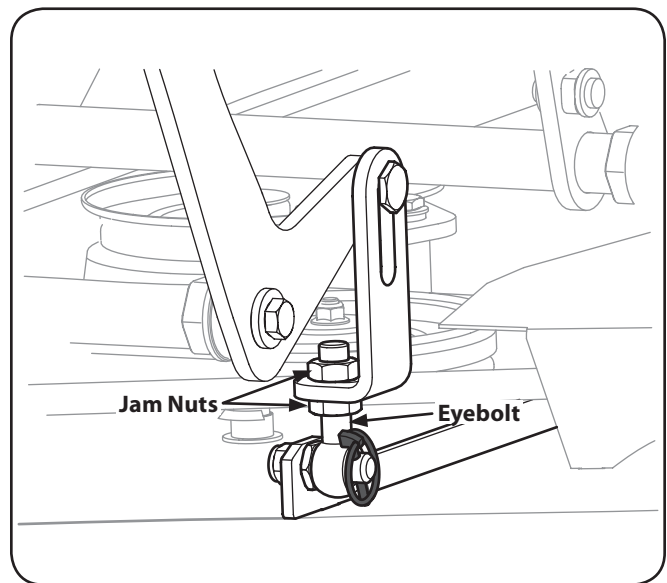

Figure 6-3
- Adjust the eyebolt at the left front of the deck so that the blade-to-ground height at the right front blade tip matches that of the left front blade tip. This is done by loosening the jam nuts on the eyebolt and tightening the upper nut to raise the deck and loosening the nut to lower the deck. The right front blade tip height is fixed so you must adjust the left front tip to match it. See Fig. 6-3.
2. Loosen the jam nuts at the rear left and right of the deck horizontal threaded rods. Refer to Fig. 6-3.